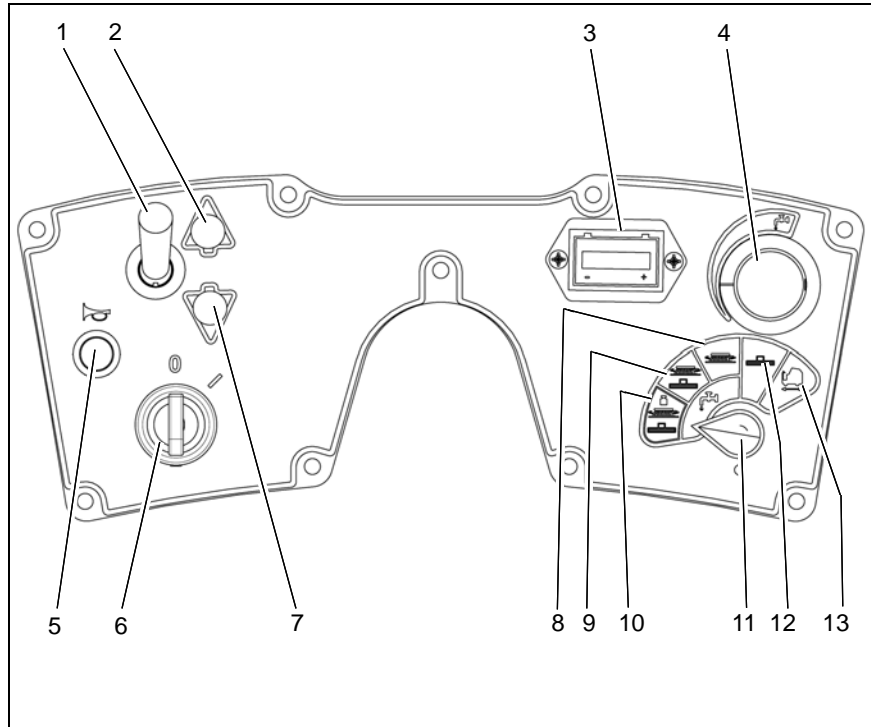

Fig.5
**Direction selector (Fig. 5/1)** Controls the direction in which the Admiral SPORT will move when the accelerator pedal is activated. The arrow pointing forward the amber LED (Fig. 5/2) indicates the machine is in forward mode. The arrow pointing backward with the red LED (Fig. 5/7) indicates the machine is in reverse mode.
### Battery / Fault gauge(Fig. 5/3)
### Solution control(Fig. 5/4)
### Horn (Fig. 5/5)
### Key Switch(Fig. 5/6)
### Mode selector(Fig. 5/11)
### Regular scrub mode(Fig. 5/9)
### **Heavy scrub mode(Fig. 5/10)**
### **Double scrub mode(Fig. 5/8)**
### **Vacuum only mode(Fig. 5/12)**
### **Transport mode(Fig. 5/13)**